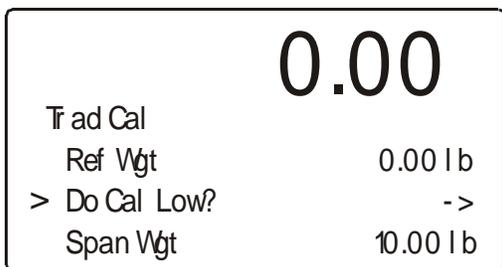

FIG. 2-9 DO TRADITIONAL CALIBRATION/ZERO
Step 14. Press the “-” button until the cursor is in front of “Do Cal Low?”. (See Fig. 2-9)